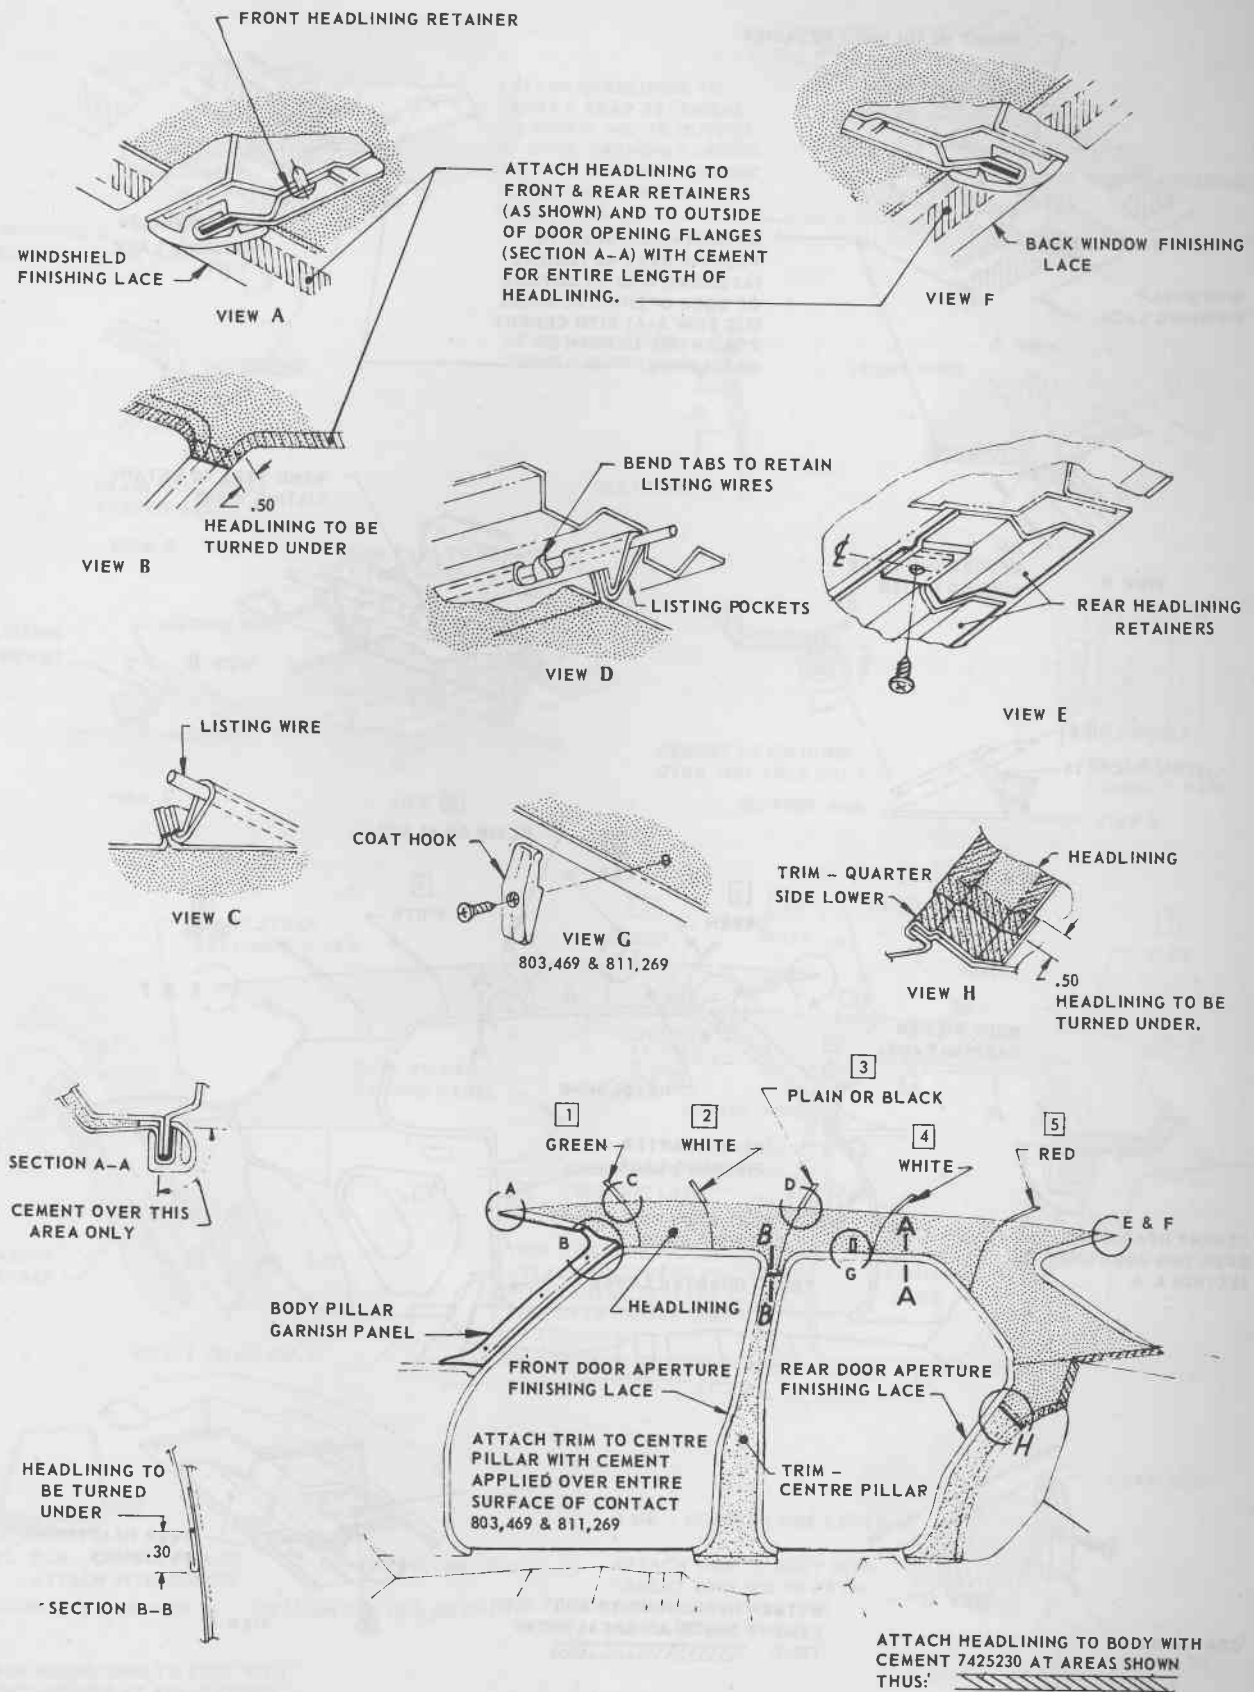

Fig. 10-2
The roof headlining, which follows the contour of the roof, is supported in its curved shape with transverse listing wires. These wires are located in holes spaced at regular intervals along the roof side rails (see Figs. 10-2, 10-3, 10-4 and 10-8). These listing wires are inserted through a series of stitched listing pockets, the stitch lines of which are visible across the headlining. The edges of the headlining are cemented to the front and on all except Station Sedans, the rear headlining retainers and roof side rails. The finishing lace attached to the front and rear headlining retainers and door openings assist in retaining and protecting the headlining.
3. Remove front and rear headlining retainer finishing lace (see Views A and F, Figs. 10-2 to 10-4 inclusive).
5. Remove finishing lace protecting side edges of headlining (see Section A-A, Figs. 10-2 to 10-4 inclusive).
8. Ease back tabs securing No. 3 listing wire to roof support (see View D, Figs. 10-2 to 10-4 inclusive), disengage ends of listing wire, then remove headlining assembly.
NOTE: Listing wires are identified by a daub of coloured paint on end of wires (see Figs. 10-2, 10-3, 10-4 and 10-8).
5. Pierce No. 3 listing pocket in line with roof support clinch over tabs, locate tabs under listing wire and bend tabs over, securing wire to roof support (see View D, Figs. 10-2 to 10-4 inclusive).
9. On sedans, fold part of headlining to be attached to centre pillar back on itself, sufficient to align folded edge of headlining with original cement mark on pillar, then cement this part of headlining to centre pillar (see Section B-B, Figs. 10-2 and 10-4).
10. Install edges of headlining to roof side rails, repeating No. 9 installation instruction for installing front corners of headlining to windshield pillars (see View B, Figs. 10-2 to 10-4 inclusive).
12. Install finishing lace around door aperture flanges and headlining retainers (see Section A-A and View A and F, Figs. 10-2 to 10-4 inclusive).